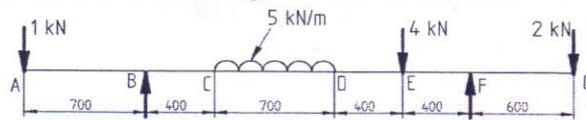

fig. 5(a)
5. a) A simply supported beam AB of 6m span is loaded as shown in fig. 5(a). Draw the shear force diagram with forces as shown.